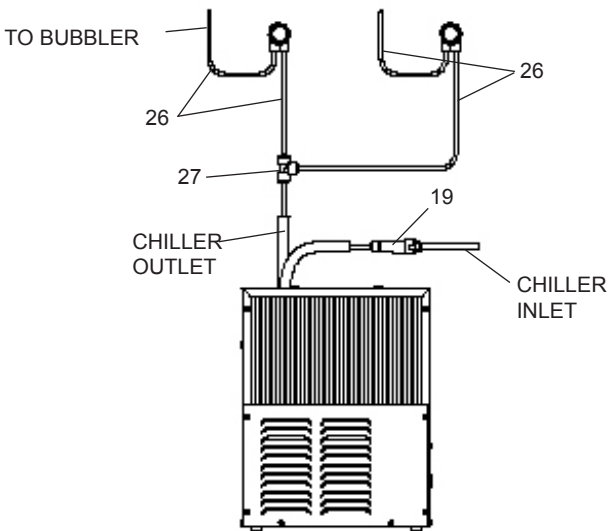

Figure 3 - ERPB Tube Routing
3. **ERP Models:** Make connection between remote chiller and building supply line. Inlet port is marked on the chiller (1/4" O.D. copper tube). Bend the copper tube (provided) at an appropriate length from chiller to opening in frame. Install the in-line strainer (provided with chiller) by pushing it until it reaches a positive stop, approximately 3/4" (19mm) on the marked chiller inlet port. Connect building supply line to strainer. (See Figure 3)